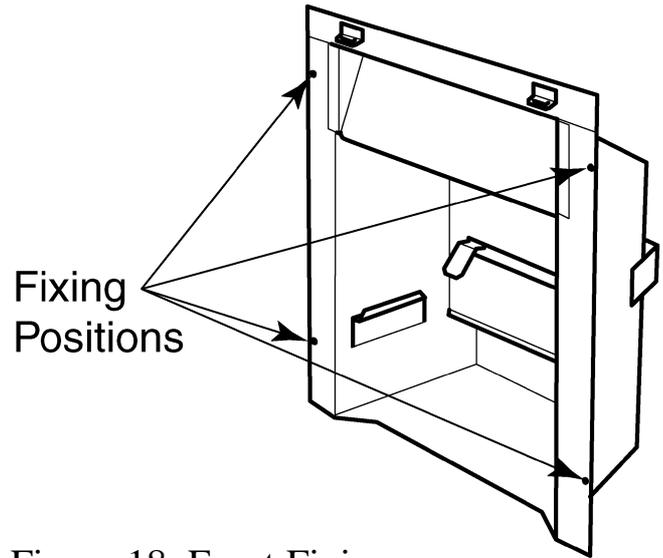

Figure 18. Front Fixing
3. Mark the fireplace front surround through the four fixing holes in the side flanges of the hotbox (See figure 18).